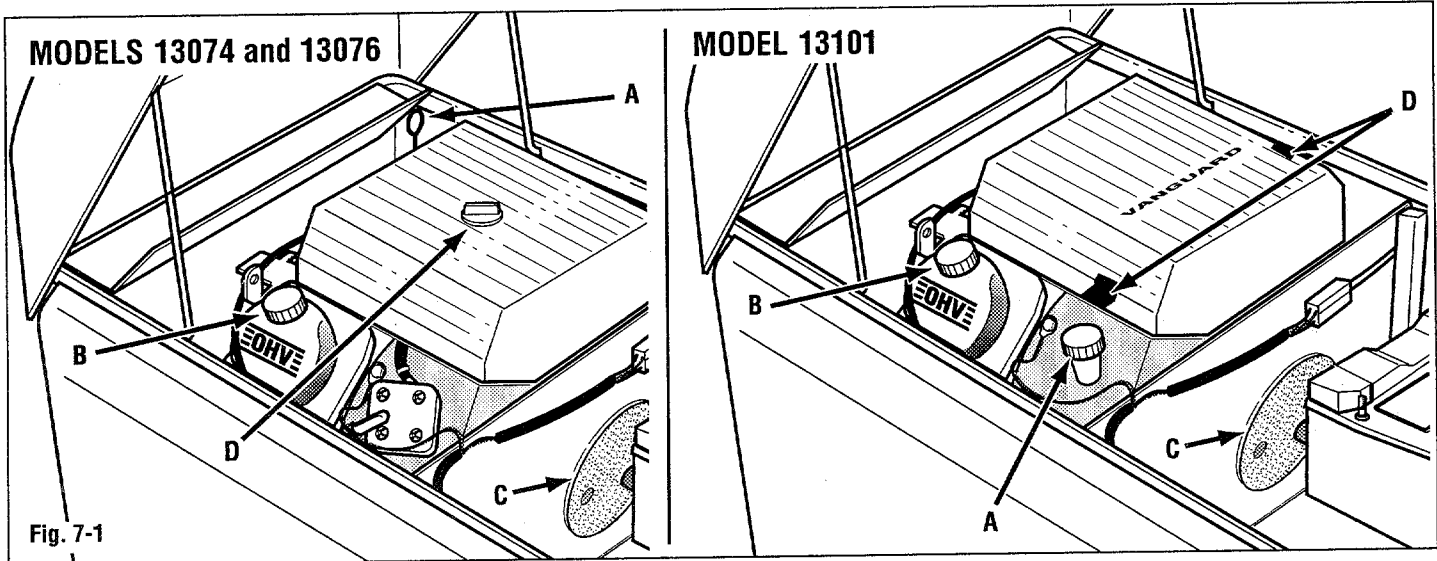

Fig. 7-1
Refer to your specific model in Figure 7-1.
1. Remove dipstick (A, Fig. 7-1).
3. Remove dipstick and check oil level. The oil level is indicated by marks on the dipstick. Keep level between the ("F" Full) and ("L" Add) marks. If level is low, fill engine crankcase through fill opening (B, Fig. 7-1).
5. Fill engine crankcase with oil at fill opening (B, Fig. 7-1). See engine manual for the correct oil type. Fill to level indicated on dipstick, between the ("F" Full) and ("L" Add) marks. **NEVER OVERFILL ENGINE CRANKCASE.** Capacity w/ filter – See engine manual.
STOP ENGINE BEFORE CLEANING AIR SCREEN! Check engine air intake screen (C, Fig. 7-1) for debris and clean regularly.
1. Clean dirt from around the air cleaner cover. Unscrew knob or unlatch clips (D, Fig. 7-1) and remove cover.
8. Place cleaned (or new) paper element (G) on engine. Secure with wing nut (F). Install cleaned, oiled foam pre-cleaner (E) over paper element.
9. Install cover and screw in knob or latch clips (D, Fig. 7-1) down.